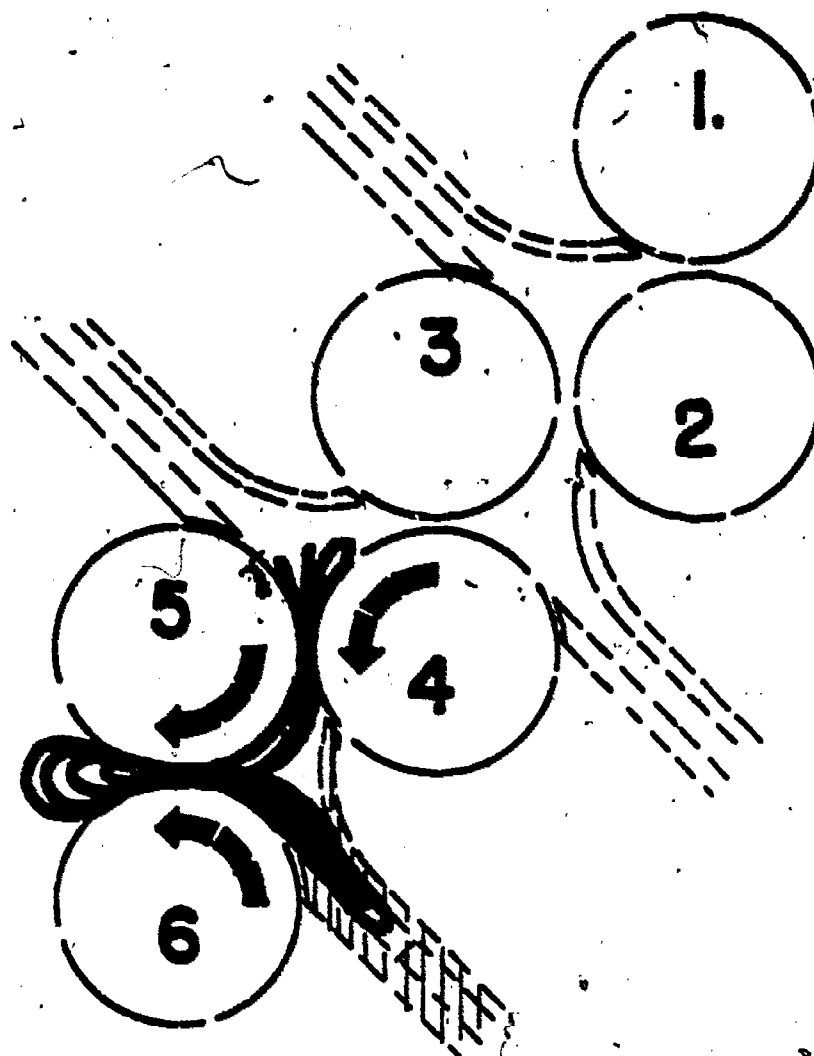

FIGURE 6. FOLDING PROCEDURE. STEP 6.
f. Step 6. It strikes the fold plate gauge, buckles, and is drawn into and folded by rollers 5 and 6. The sheet is then advanced by rollers 5 and 6 to the slitter shafts where the signature is now scored, perforated, slit, or trimmed, to meet job requirements....(See Figure 6)